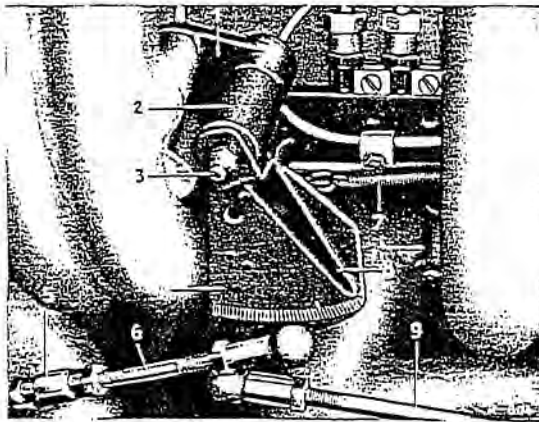

Fig. 25-10/33
1. Press the graduated disk (4) onto the relay lever (2) in such a way that it rests against the shoulder on the connector head (Fig. 25-10/33).